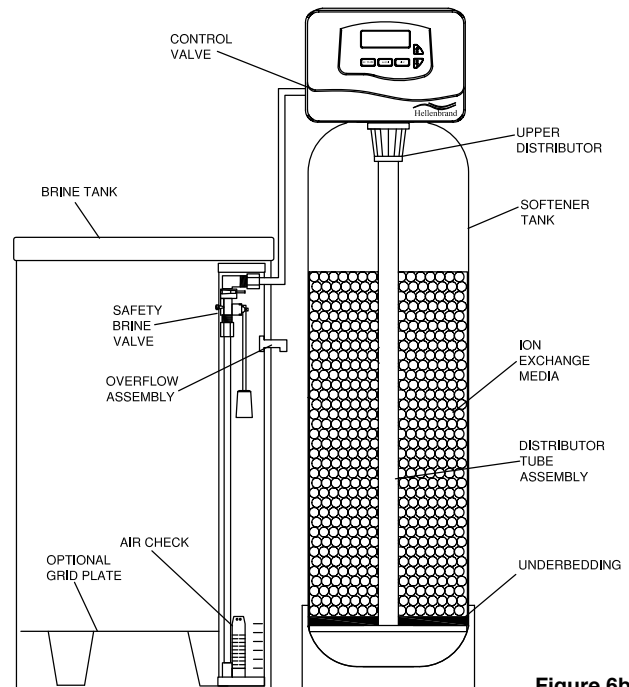

Figure 6b
8. Press the REGEN button until LED display says “REGENERANT DRAW-DN”. Loosen the brine line from the control valve. Place finger over the end of brine connection on valve to check for suction. If no suction, see trouble-shooting guide. (See #10, Page 22) If proper suction, attach brine tube to control valve, and allow it to draw water down to the bottom of the air check, (figure 6b, page 6).